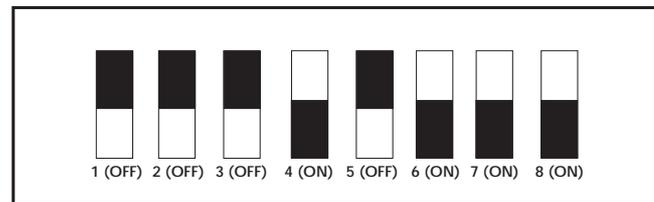

Figure 11 - Dip-switch setting
**Note:** If factory installed the dip-switches will already be set. If the humidifier is field fitted, set the dip-switches as shown in Figure 11.